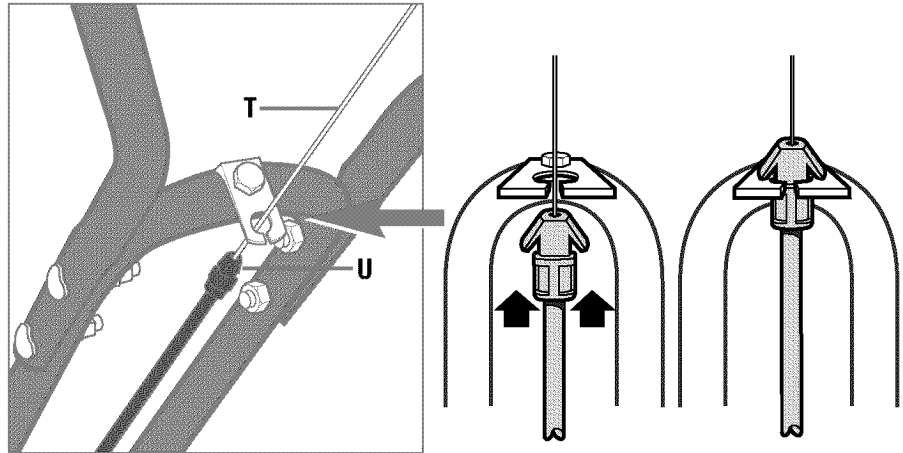

Fig. 2-4: Installing forward clutch cable bracket and cable.
1. Carefully unwrap the forward clutch cable (the cable without a knob attached to it) from its shipping position and slide the thin cable wire (T, Fig. 2-4) into the slot in the cable bracket. Push the cable connector (U, Fig. 2-4) up through the hole in the bracket until the groove in the connector snaps into place on the bracket.